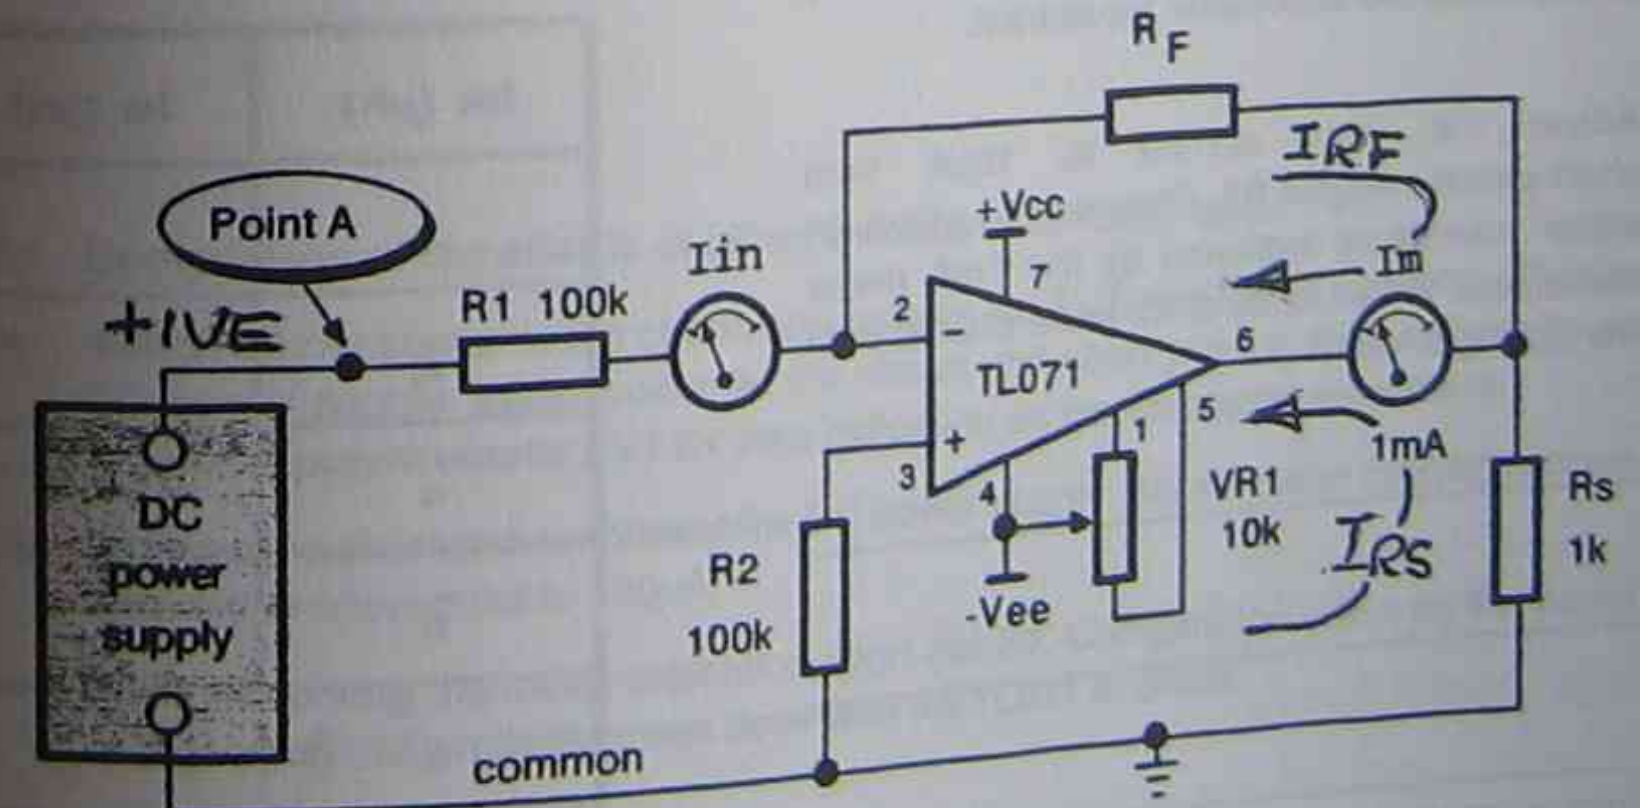

Fig.1: DC micro-ammeter
The circuit of Fig.1 uses an op amp to drive a 1mA meter. R_F and R_S are used to 'scale' the circuit. The purpose is to create an accurate, sensitive ammeter with ranges of $10\mu A$ and $100\mu A$ while using the 1mA meter movement.
- Calculate the value of R_F needed in Fig.1 to cause a 10 μ A input current to produce full scale deflection on the 1mA meter.
- Adjust a 100k potentiometer to the calculated value of R_F . Construct the circuit of Fig.1, using the adjusted potentiometer for R_F . Keep wiring neat and as short as practicable. The 1mA meter movement can be a multimeter set to its 1mA DC current range. The ammeter used to measure I_{IN} is a multimeter set to a range that can read 10 μ A.